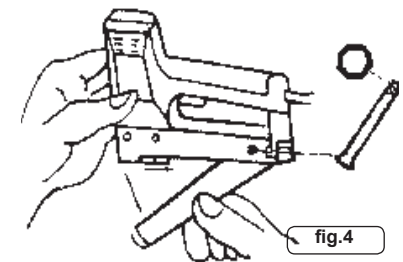

fig.4
- 4.3. Undo and remove the screw to the rear of the tool, see fig.4. Hold the latch on the magazine push back and lower the chamber from the stapler body.